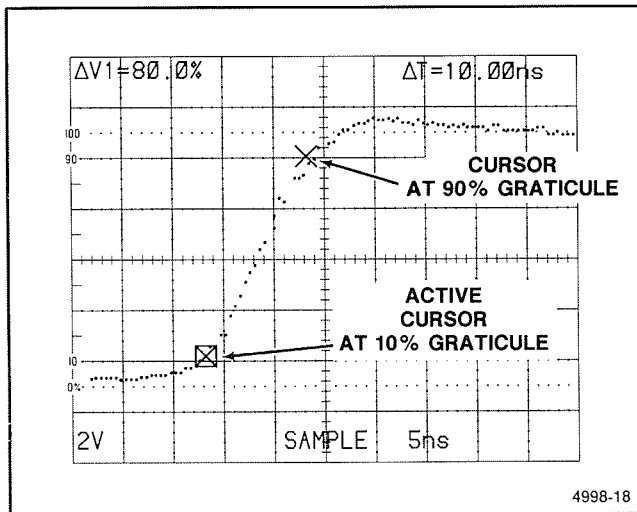

Figure 6-5. Rise time, cursor method.
10. Push the SELECT C1/C2 button to select the other cursor, and use the CURSORS control to move the active cursor up the waveform's leading edge until the  $\Delta V$  readout is 80% (see Figure 6-5).